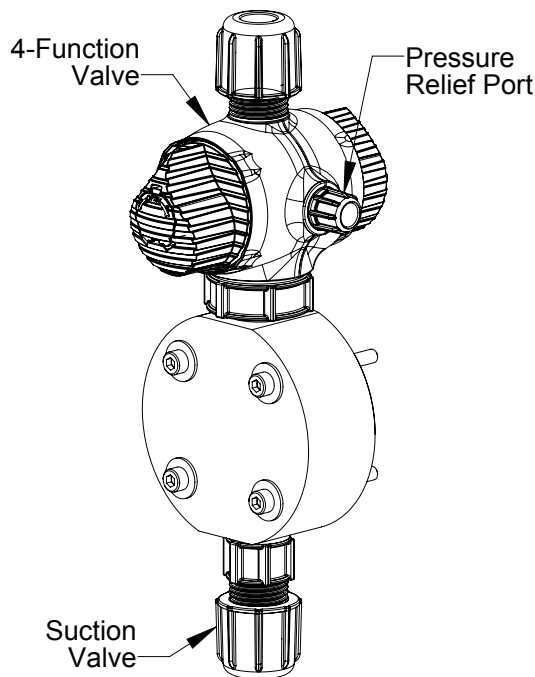

FIGURE 3
1. Connect pressure relief tubing to the pressure relief port (FIGURE 3). Route tubing to the solution tank. This tubing must not be submerged in the solution.